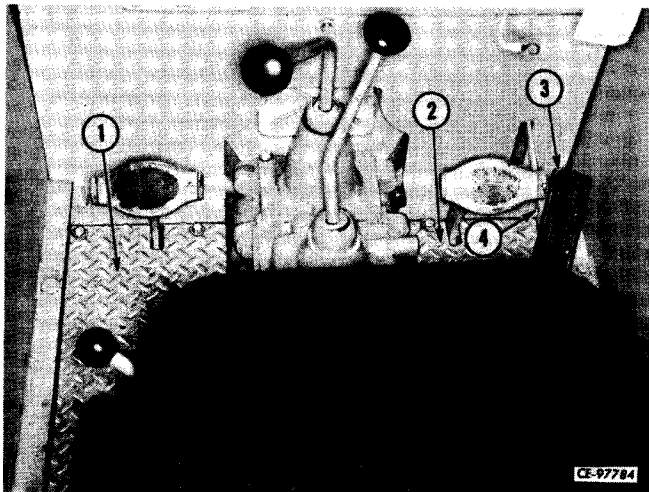

Figure 4-1
From inside the operator's compartment disconnect accelerator pedal (3, Fig. 4-1) from accelerator linkage by removing nuts and lock washers.
Install floor panels (1, 2, Fig. 4-1). Connect accelerator linkage (4) to accelerator pedal (3) and install and tighten nuts and lock washers.